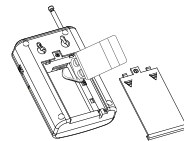

Fig.1
1. Remove the screw from the battery compartment cover. (Fig.1)